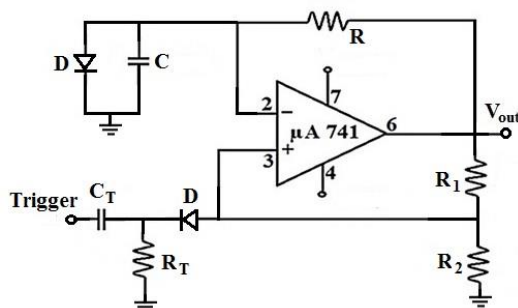

Fig. 9.2: Negative edge triggered monostable multivibrator circuit
- Connect the circuit as shown in Fig. 9.2.